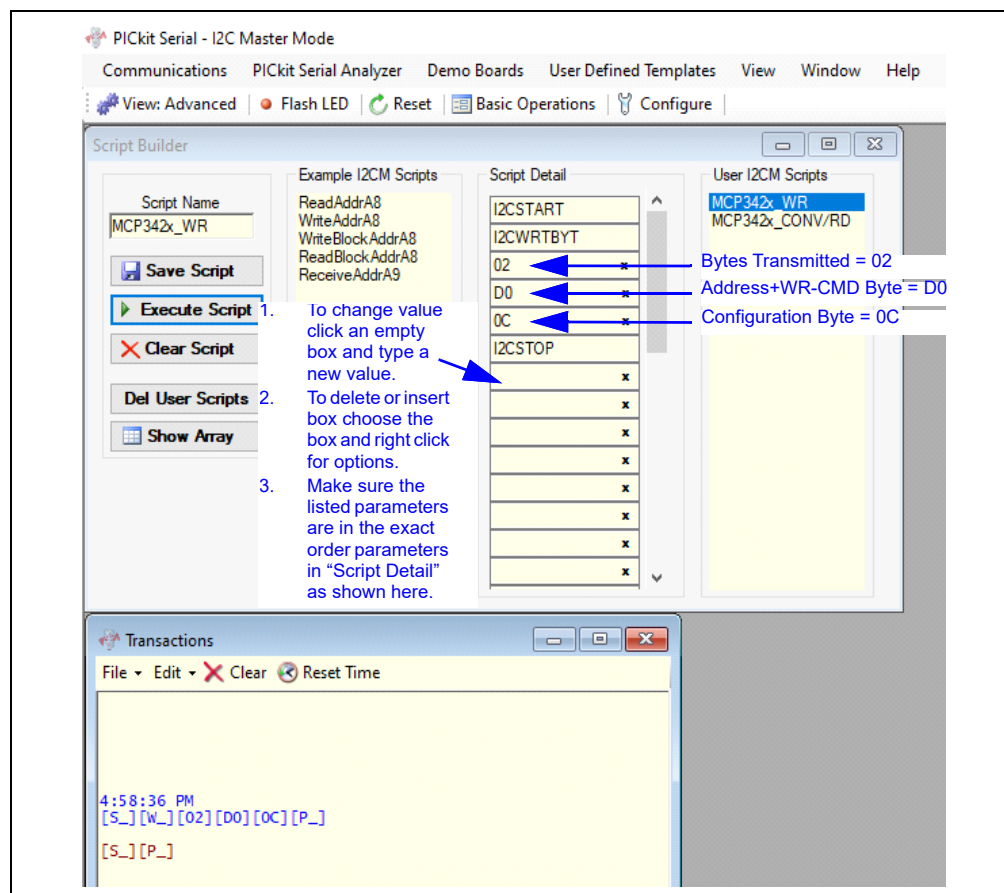

FIGURE 2-9: PICKit™ Serial I²C Write Command.
7. Change the fourth and fifth parameter values in the “Script Detail” column per the desired device operation (see Figure 2-9).